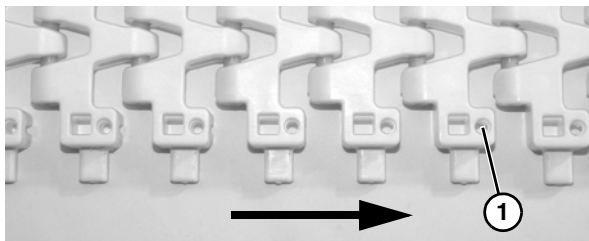

Figure 16
Ensure the belt is running in the correct direction, with hole (Figure 16, item 1) towards conveyor motor.